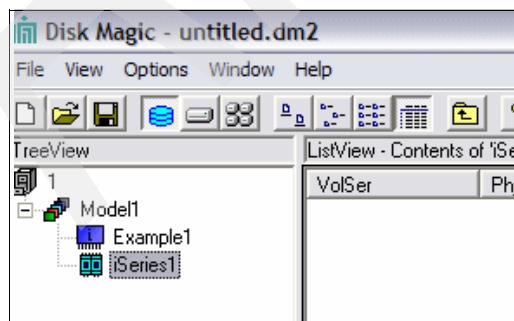

Figure 4-23 Selecting the disk subsystem
- In the TreeView panel in Disk Magic, observe the following two icons (Figure 4-23):